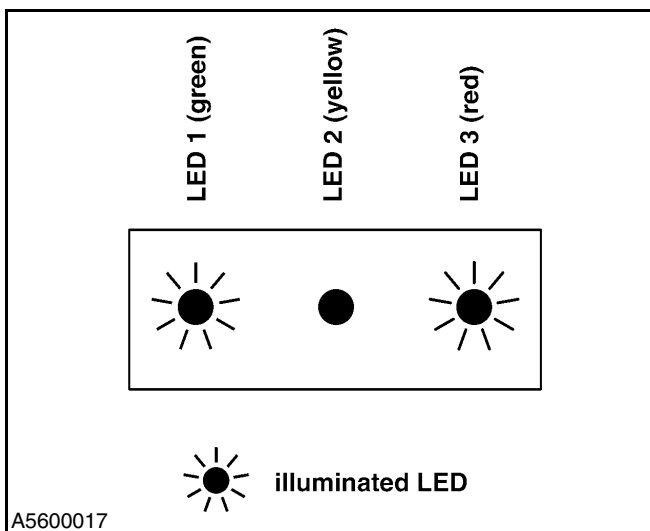

Figure 32
- The main voltage is low or the door is experiencing reduced performance. (See Figure 32.)